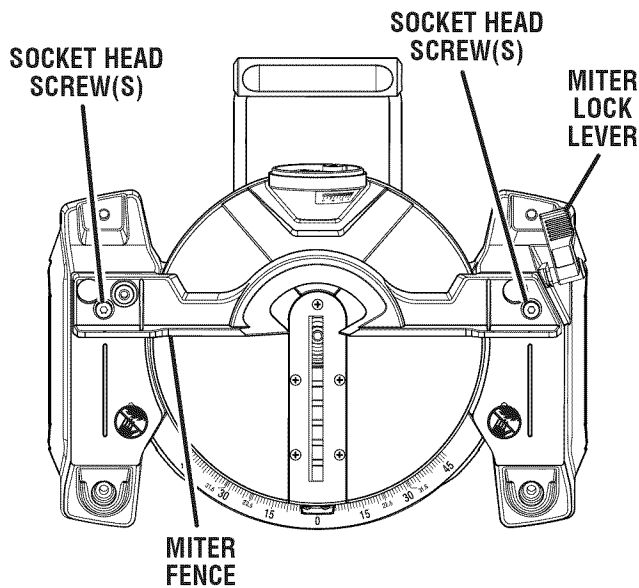

Fig. 13
See Figures 13 - 16.
- Using the blade wrench, loosen the socket head screws that secure the miter fence to the miter table. See figure 13.